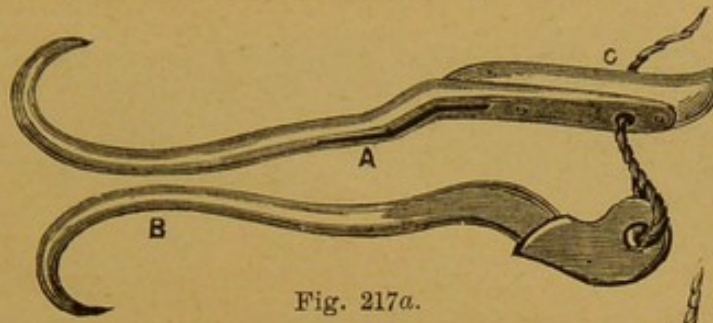
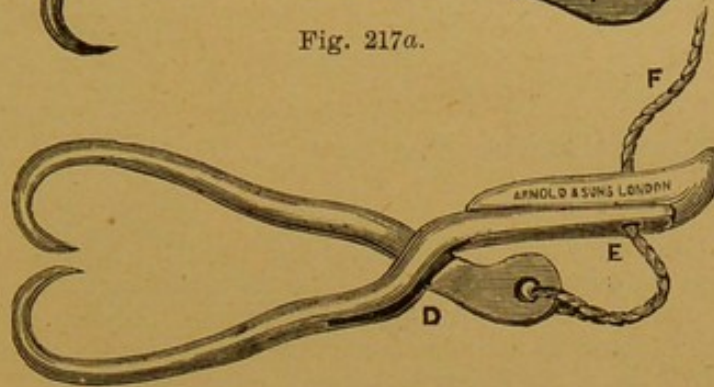

Fig. 217a.
Fig. 218.
Figs. 217a and 218 £1 0 0
A. A single hook for manipulating previously to uniting as a double hook, with slot for opposite blade (B) to pass through, as shown in Fig. 217a. B. A second hook, with cord attached. C. Wooden handle, terminating with curved end, preventing hand slipping. D. Handle showing blade passed through opposite one, with ring and rope (F) attached. E. Opening in handle for cord (F) to pass through from opposite blade when ready for use, as Fig. 218. F. Cord ready for use.